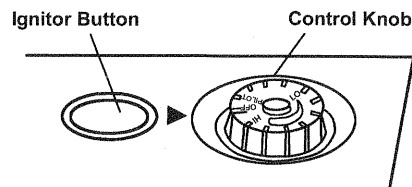

Figure 19 - Control Knob In The OFF Position
4. Wait five(5) minutes to clear out any gas. Then smell for gas, including near the floor. If you smell gas, STOP! Follow "B" in the safety information on the side of heater. If you don't smell gas, go to the next step.
5. Turn control knob counterclockwise ↻ to the PILOT position. Press in control knob for five(5) seconds. (see Figure 19).